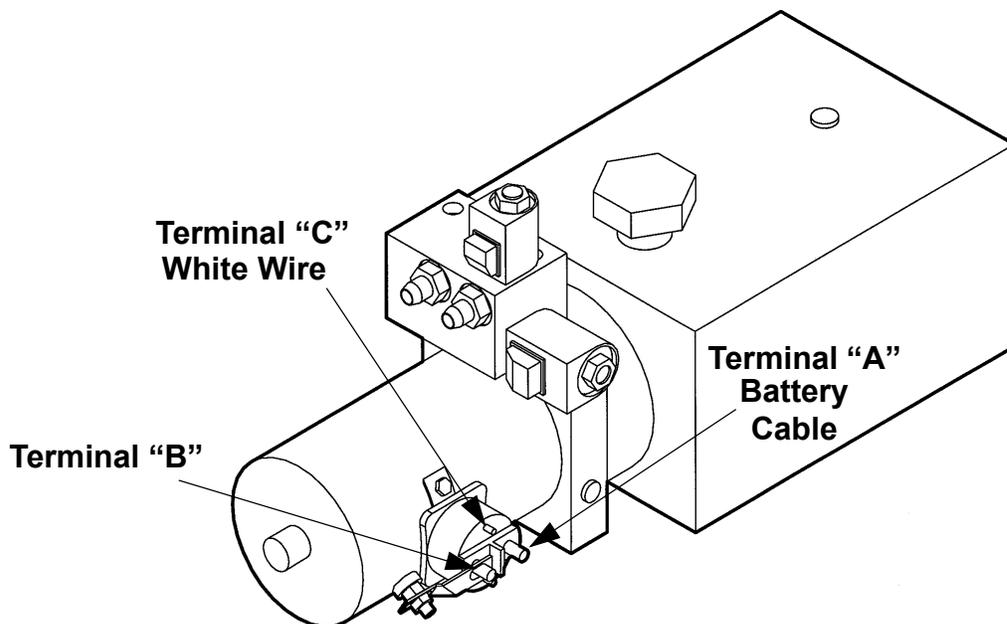

FIGURE 1
1. Check the Flow Control Valve. The Arrow on the valve shows the direction of flow that is restricted and must point back to the Reservoir. **(See Fig. 1)**